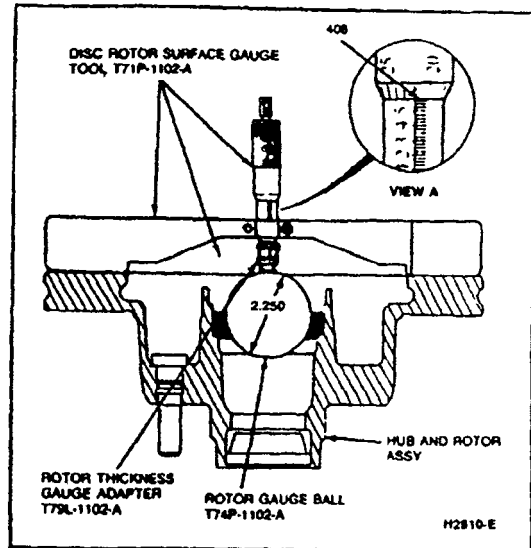

FIG. 8 Gauging Front Rotor Inner Braking Surface
Maximum allowable stock removal of the inner rotor braking surface is determined by the use of Disc Rotor Surface Gauge Adapter T79L-1102-A and Rotor Gauge Ball T74P-1102-A or equivalent (Fig. 8) as follows:
4. Position the micrometer gauge bar on the rotor inner braking surface with the micrometer centered over the ball (Fig. 8). To measure the distance between the micrometer baseline setting and the ball, turn the micrometer down to touch the top of the ball, and calculate the difference between that reading and the baseline setting. This distance is equal to the maximum allowable stock removal from the inside braking surface only. If the micrometer end at the baseline setting touches the ball, no additional stock removal is allowed.